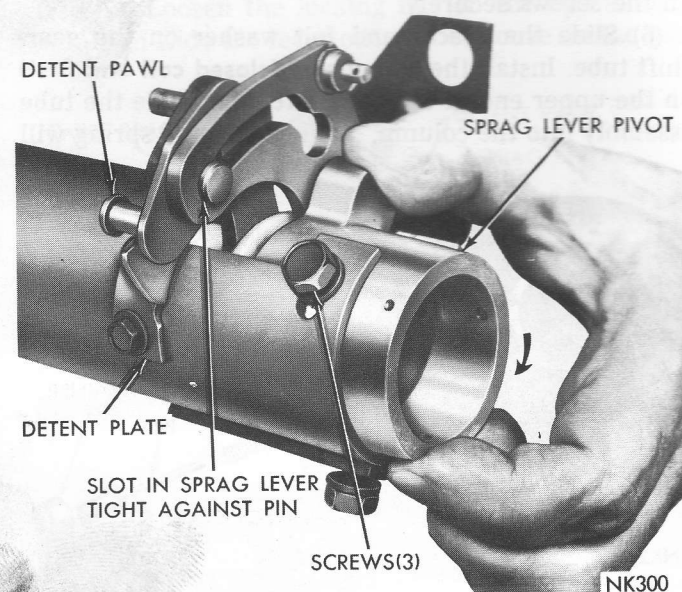

Fig. 17—Adjusting Sprag Lever and Detent Plate
(10) **The gearshift lever must be held firmly in the LOW position while adjusting the sprag lever, pivot and detent plate.** Adjust by rotating the sprag lever pivot clockwise until the slot in the sprag lever is tight against the pin (Fig. 17), then tighten the three pivot screws. Install the pawl spring, then adjust the detent plate to align the end detent with the pin on the detent pawl. Tighten the detent plate screws. Move the gearshift lever in and out of LOW several times and inspect the adjustment.